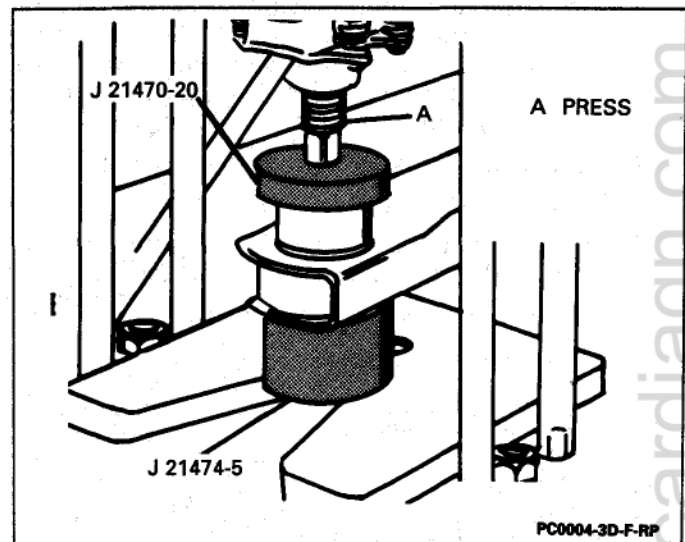

Figure 4 – Installing Lower Control Arm Bushing Assembly
1. Reverse tool. See Figure 4.